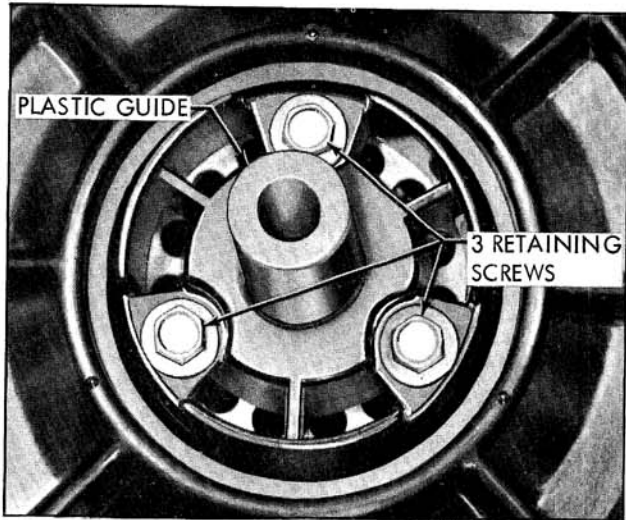

Fig. 11-61 Location of Guide Screws
15. Loosen the three guide attaching screws and remove the guide. Remove the rubber reaction bumper from the guide. (Fig. 11-61)